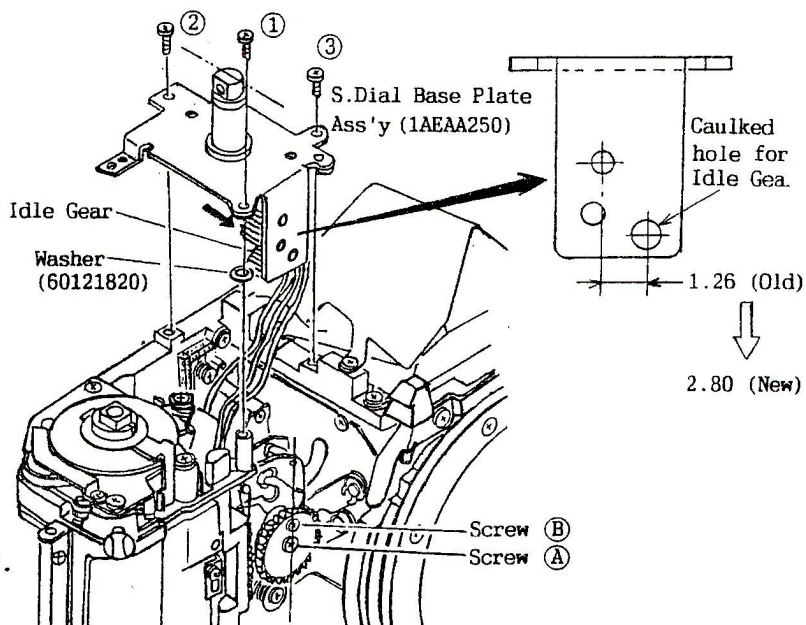

Fig.14
- 1) Set the Shutter Speed Setting Gear so that the screw (B) of the Shutter is positioned just above the screw (A). (Bulb position)
- 2) With the D-cut surface of the shaft facing as shown in Fig.14, install the S. Dial Base Plate on the Body.